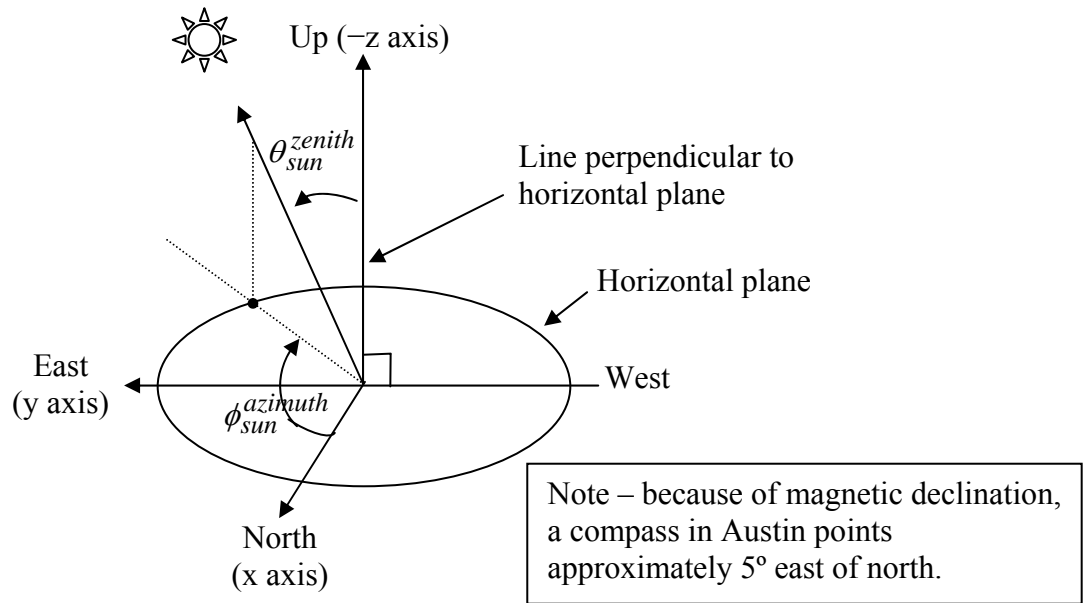

Figure 4. Sun Zenith and Azimuth Angles
The position of the sun in the sky varies dramatically with hour and season. Sun zenith angle θ_{sun}^{zenith} is expressed in degrees from vertical. Sun azimuth $\phi_{sun}^{azimuth}$ is expressed in degrees from true north. Sun zenith and azimuth angles are illustrated in Figure 4.
Equations (6) and (7) correspond to the projections, on the horizontal plane, of a vector pointing toward the sun. By examining Figure 4, $\phi_{sun}^{azimuth}$ can be found as follows:
Considering Figure 4, the unit vector pointed toward the sun is